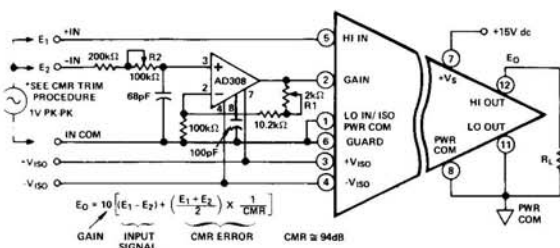

Figure 15. Application of 290A as Instrumentation Amplifier
In applications where the isolated power is applied to transducers such as bridges which generate differential input signals with common mode voltages measured with respect to the isolated power common, models 290A and 292A can be connected as shown in Figure 15. To achieve high CMR with respect to the ISO PWR COM, the following trim procedure is recommended.
- 1) Connect a 1V pk-pk oscillator between the +IN/-IN and IN COM terminals as shown in Figure 15.